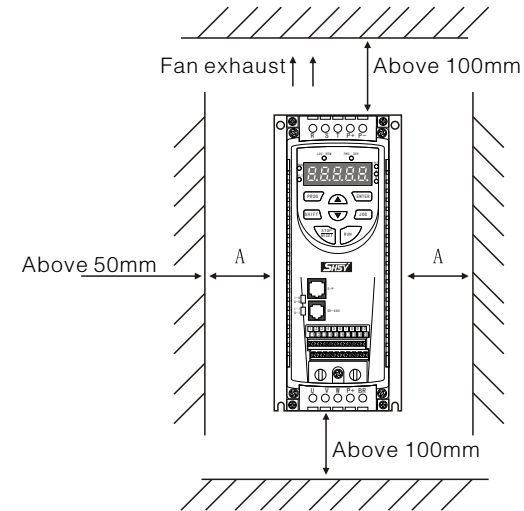

Fig. 3-1 Installation gap
2) Make sure the inverter has the enough space for heat emission, the installation space is shown as fig. 3-1. However, when laying it, please consider the heat emission of other parts in the cabinet.